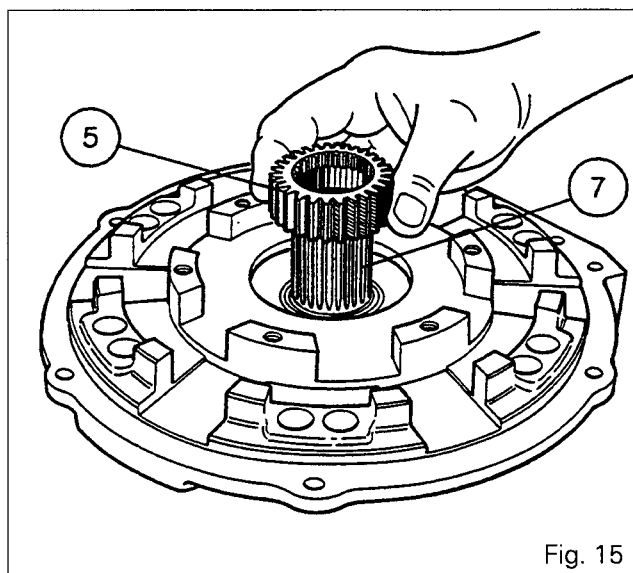

Fig. 15
50. Fit the hub (5) on the primary shaft (7), with its internal splines facing upwards (Fig. 15). Fit the clutch driving plates (3) and the driven plates (2).
51. Position the other two brake discs (15), separated by the pressure plate (17).
52. Refit the springs (20). Fit the O-ring (73).
53. Check that plugs (23) and (29) are in place. Make sure that the channels on pistons (22) and (37) in the housing (21) are not blocked.
54. Lubricate the seals (24) and (26), and fit them on piston (22) and in housing (21), respectively.
56. Screw two guide studs onto the housing (21) and position the housing on the cover (13). Check that the lubricating channel on the housing is correctly aligned with the one on the cover.